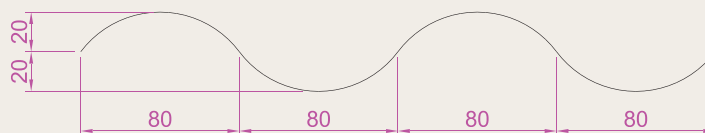

Fig. 17.47 Exercise 9 – one of the solutions from which the surface was obtained
9. Figure 17.47 shows a polyline for each of the 4 objects from which the surface shown in Fig. 17.48 was obtained. Construct the surface and shade with **Realistic** shading.